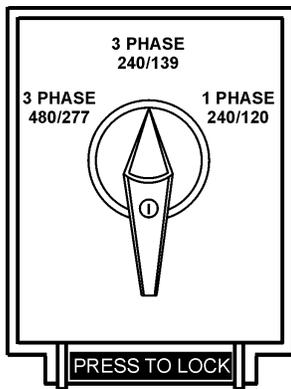

Figure 14. Voltage Selector Switch
A wide range of voltages are available to supply voltage for many different applications. Voltages are selected by using the **voltage selector** switch (Figure 14). To obtain some of the voltages as listed in Table 7 (see below) will require a fine adjustment using the **voltage regulator (VR) control knob** located on the control panel.
The voltage selector switch (Figure 14) is located above the output terminal panel's Hard Wire Hook-up Panel. It has been provided for ease of voltage selection.